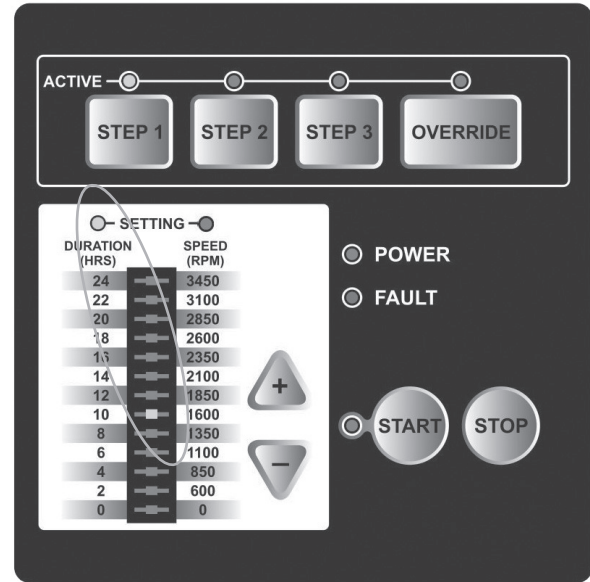

Figure 5
5. Using the UP (+) or DOWN (-) arrows, toggle to the desired duration that you want this speed to run in hours. The Bar graph will show the setting as you toggle up and down (See Figure 5 - shows the duration being set at 10 hours).